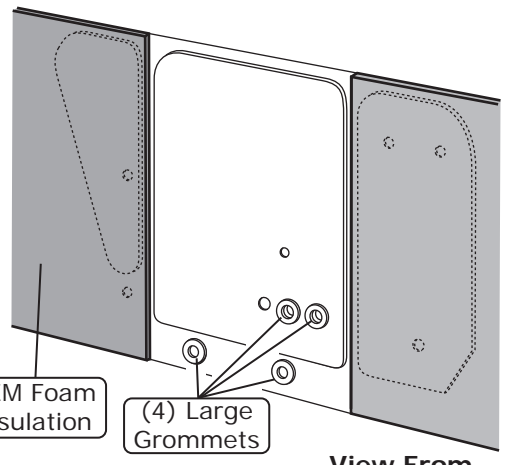

**Figure 1**
1. Drill (2) 1 1/4" holes and (2) 3/8" holes into the firewall (See Figure 1, below).
2. Enlarge an OEM hole in the firewall to 5/8" as shown in Figure 1, below.